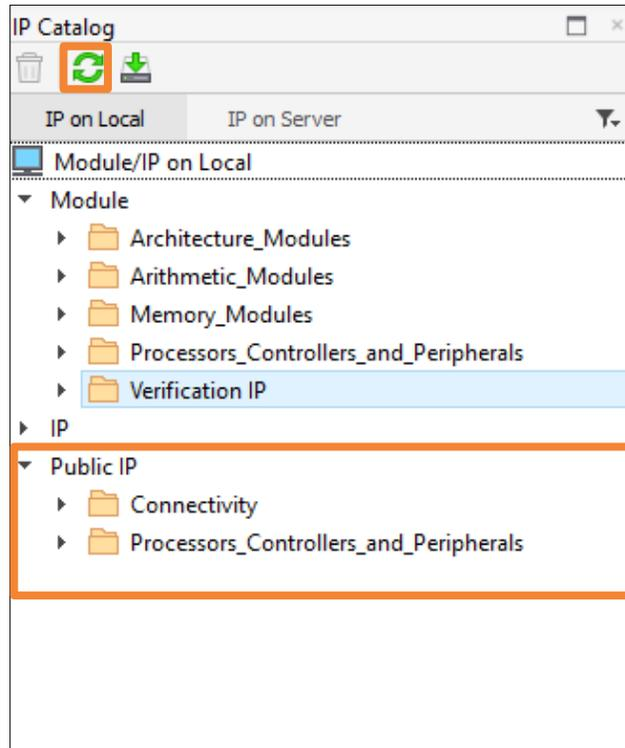

Figure 2.111. IP Catalog
- Set the IP Public Path, and then refresh **IP catalog** to get IP from this path (Figure 2.111).